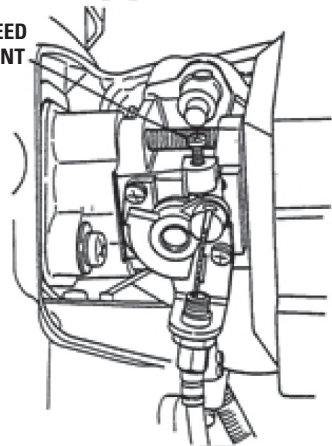

FIG.18
7. (FIG. 18) Carburetor Idle Adjustment - The carburetor has been pre-adjusted at the factory and normally will not require further adjustment. If the engine does not run smoothly at idle speed, first clean the air cleaner element, fuel filter and check fuel lines. If they are okay, adjust the carburetor as follows.
- b) Turn the idle speed adjustment screw (1) clockwise or counterclockwise (clockwise increases engine speed, counterclockwise decreases engine speed) to achieve the correct idling speed.